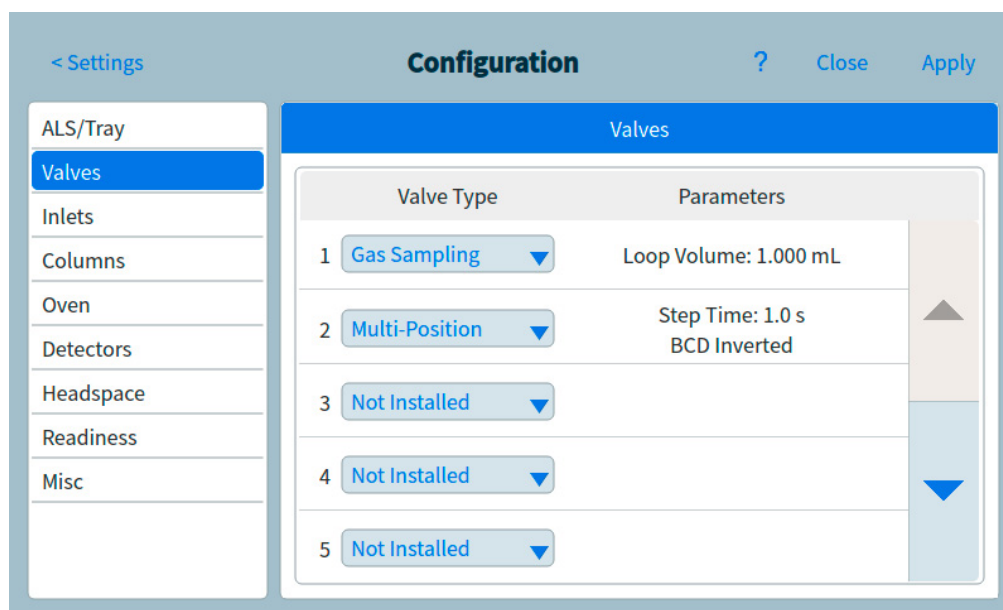

Figure 53. Valves page
- 1 Select **Settings > Configuration > Valves**. See **Figure 53**.